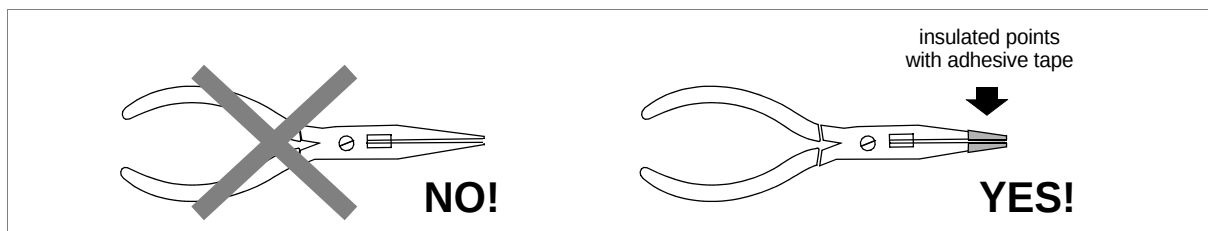

Fig. 55
- 3) Use a long-pronged pincer insulated with adhesive tape (fig.55) to remove the spent battery (B6).